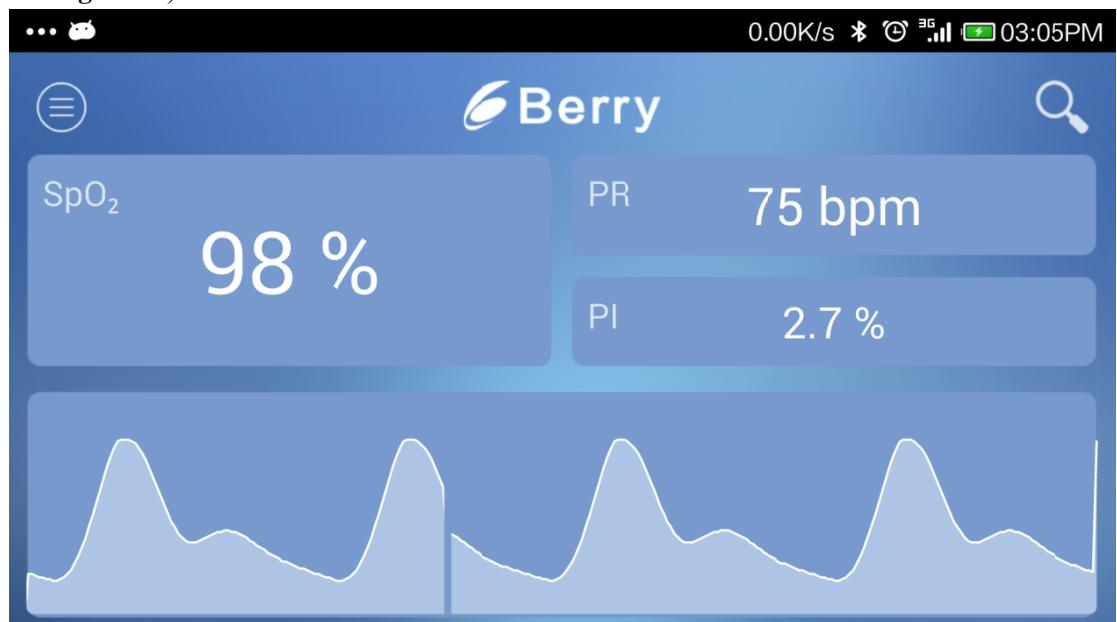

Figure 16
h. Click “Pair”, to pair with “BerryMed” and enter the following test interface. (as shown in **Figure 16**)